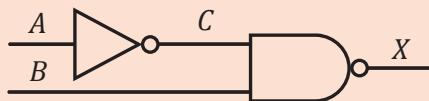

Figure 12.4
1. Draw and complete the truth tables for the circuits shown in Figures 12.4 and 12.5.
3. Derive the SOP Boolean expressions of the two circuits shown in Figures 12.4 and 12.5 using the truth tables you have drawn.